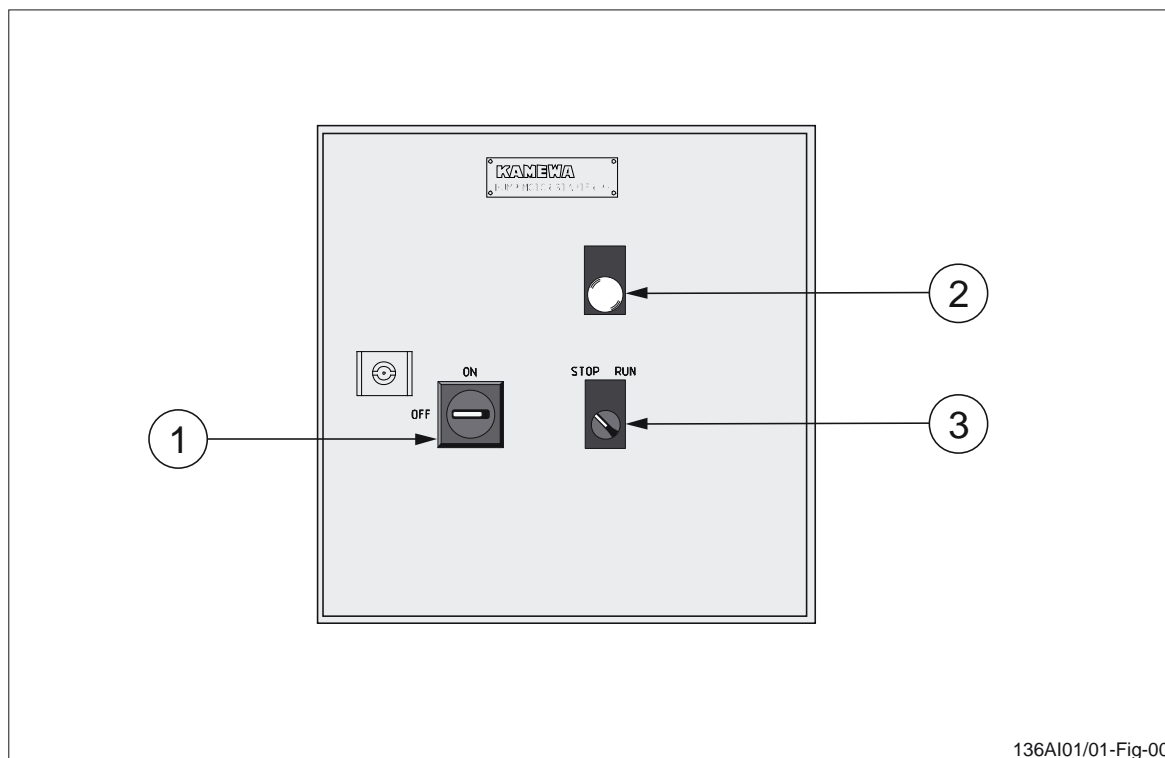

Figure 13 Front view of pump motor starter P5.
The pump motor starter cabinet includes a stop/run switch S1 (pos 3, figure 13).
The stop/run switch S1 (pos 3, figure 13) is in RUN position. The level switch in the drain oil tank will start and stop the pump unit P5.